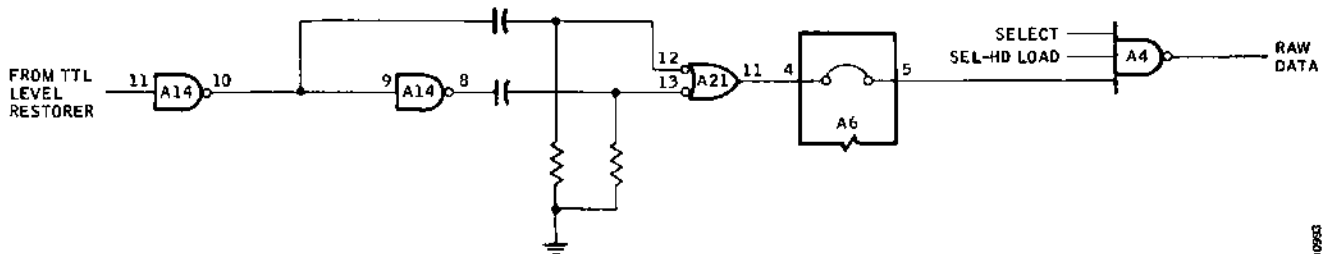
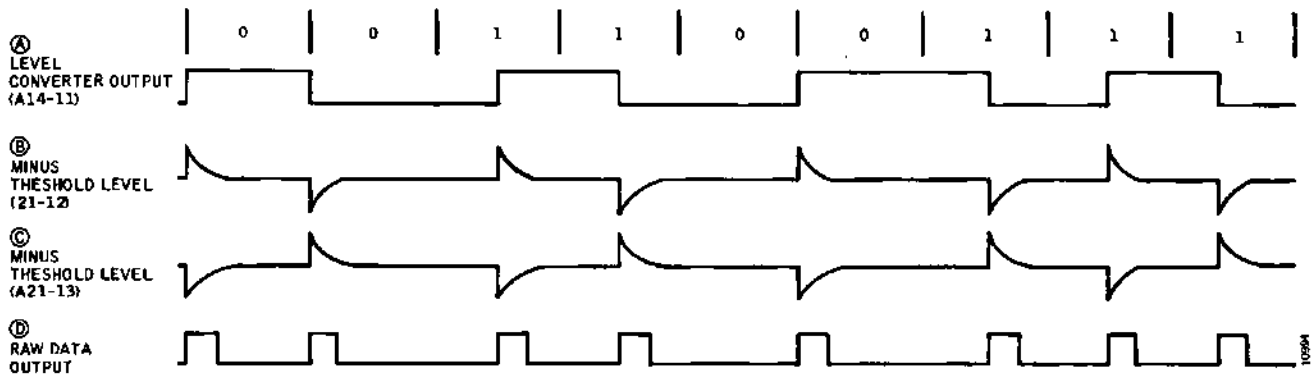

Figure 3-34. Raw Data Output Gating
Figure 3-35. MFM Raw Read Data Waveforms
- **Raw Data Output Gating** – The raw data output gating network (Figure 3-34) consists of two differentiating networks and two inverters. The input data from the logic level restorer (A, Figure 3-35) is applied simultaneously to
both networks; however, the input to one network is the complement of the other. As a result, two identical differentiated waveforms of opposite polarity (B and C, Figure 3-35) are applied to OR gate A21. When either input (pin 12 or pin 13) of A21 goes below 2.2 volts, output pin 11 goes high (D, Figure 3-35). The time constant of the RC network is approximately 2 microseconds; therefore, the threshold level of OR gate A21 is held low for approximately 300 nanoseconds.